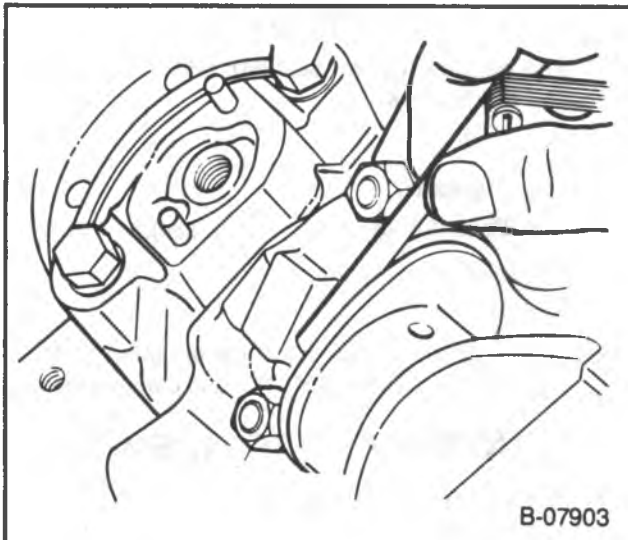

Figure 32 — Measuring Connecting Rod Side Clearance
- Connecting rod side clearance. Use a feeler gage between the connecting rod and crankshaft (figure 32). The correct clearance is 0.006-0.014-inch.